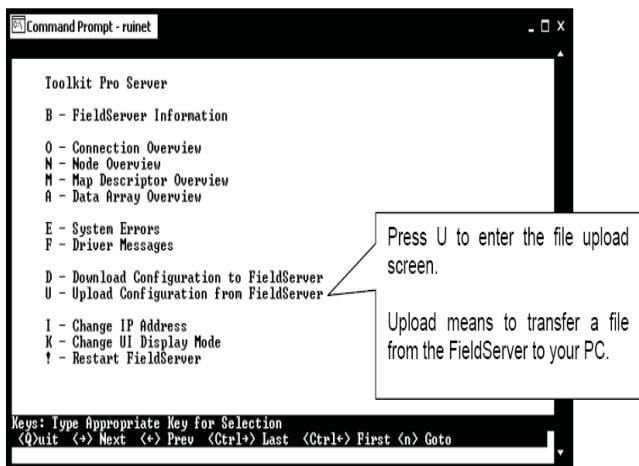
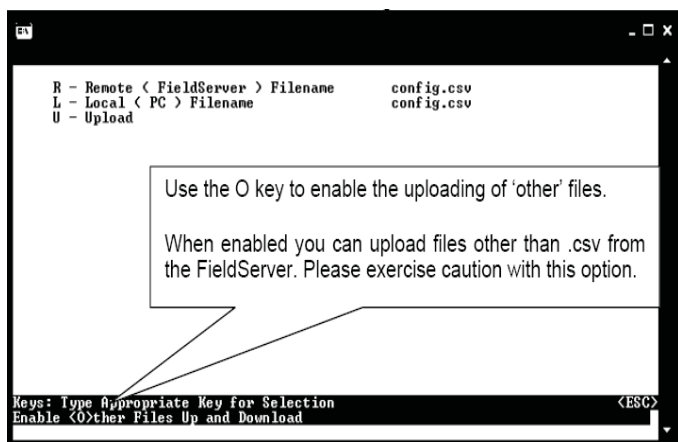

Figure 12: RUINET PT-Link II Main Menu - Upload
Figure 13: RUINET PT-Link II Upload
Power up the PT-Link II by plugging in the power cable. The PT-Link II may take up to three minutes to power up completely. Once the PT-Link II is powered up, you should notice that the green "GPI05" LED light on the ProtoCessor Board remains on continuously. **See Figure 13** for a diagram showing the location of the ProtoCessor "GPI05" LED.
7.) Type the letter  to upload the Config file (**Figure 12**), then type  again (**Figure 13**) for Upload.